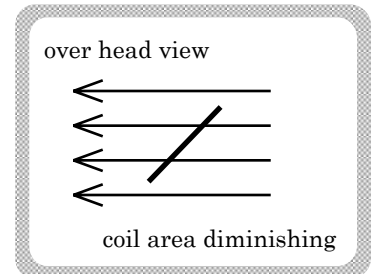

FIGURE 17.15
e.) As the area of the coil in Figure 17.15 becomes smaller, the magnetic flux through the coil's face decreases. The only way to *oppose* a decrease in magnetic flux is to generate a magnetic field that adds to the existing field. In other words, we need a current that will produce a **B**-field in the same direction as the external **B**-field.